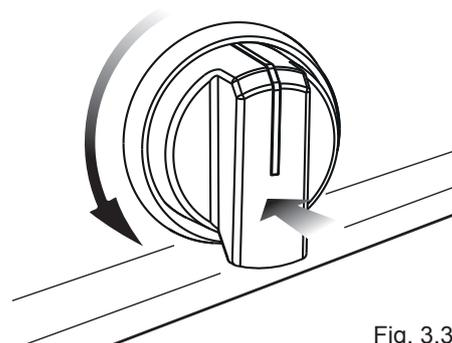

Fig. 3.3
2) Press the oven control knob right down and turn counter-clockwise (fig. 3.3) to max position **8**.